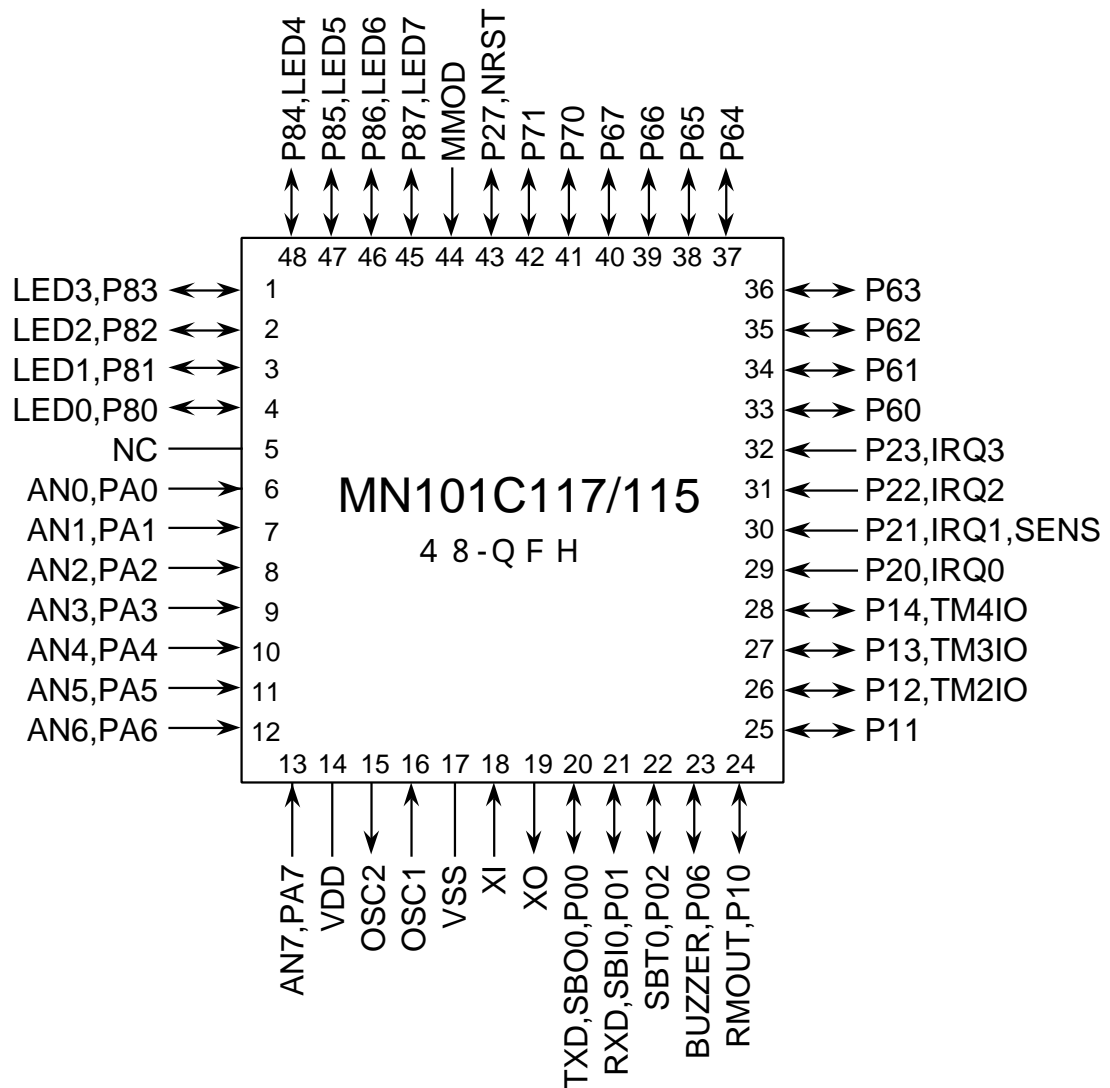

Figure 1-3-3 Pin Diagram (48-QFH: TOP VIEW)
*The pin numbers in the list correspond to the QFH package(Refer to Figure 1-3-3 Pin connection.) Be careful when using SDIP and QFP packages.